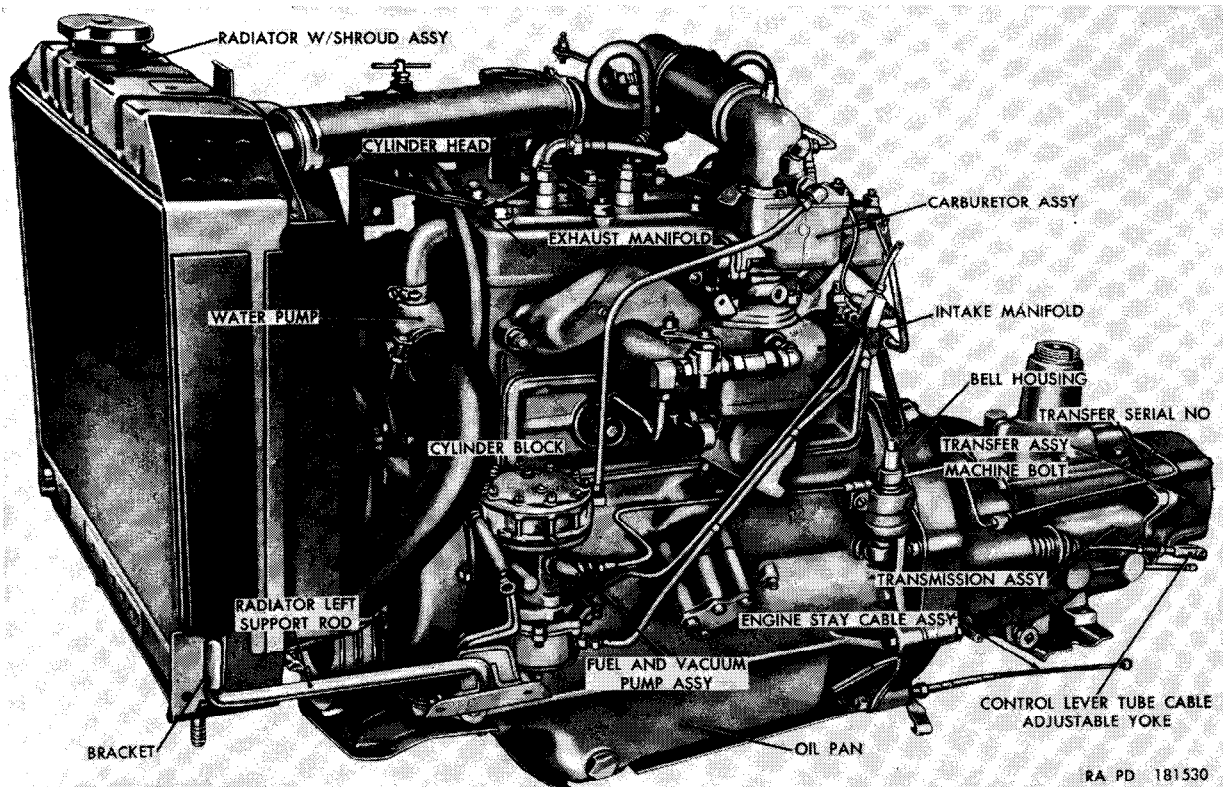

Figure 32. Left front view of power plant as removed.
- (12) Remove the cotter pin and clevis pin from the clutch control lever tube cable adjustable yoke (fig. 32) and disconnect yoke from the control lever tube.